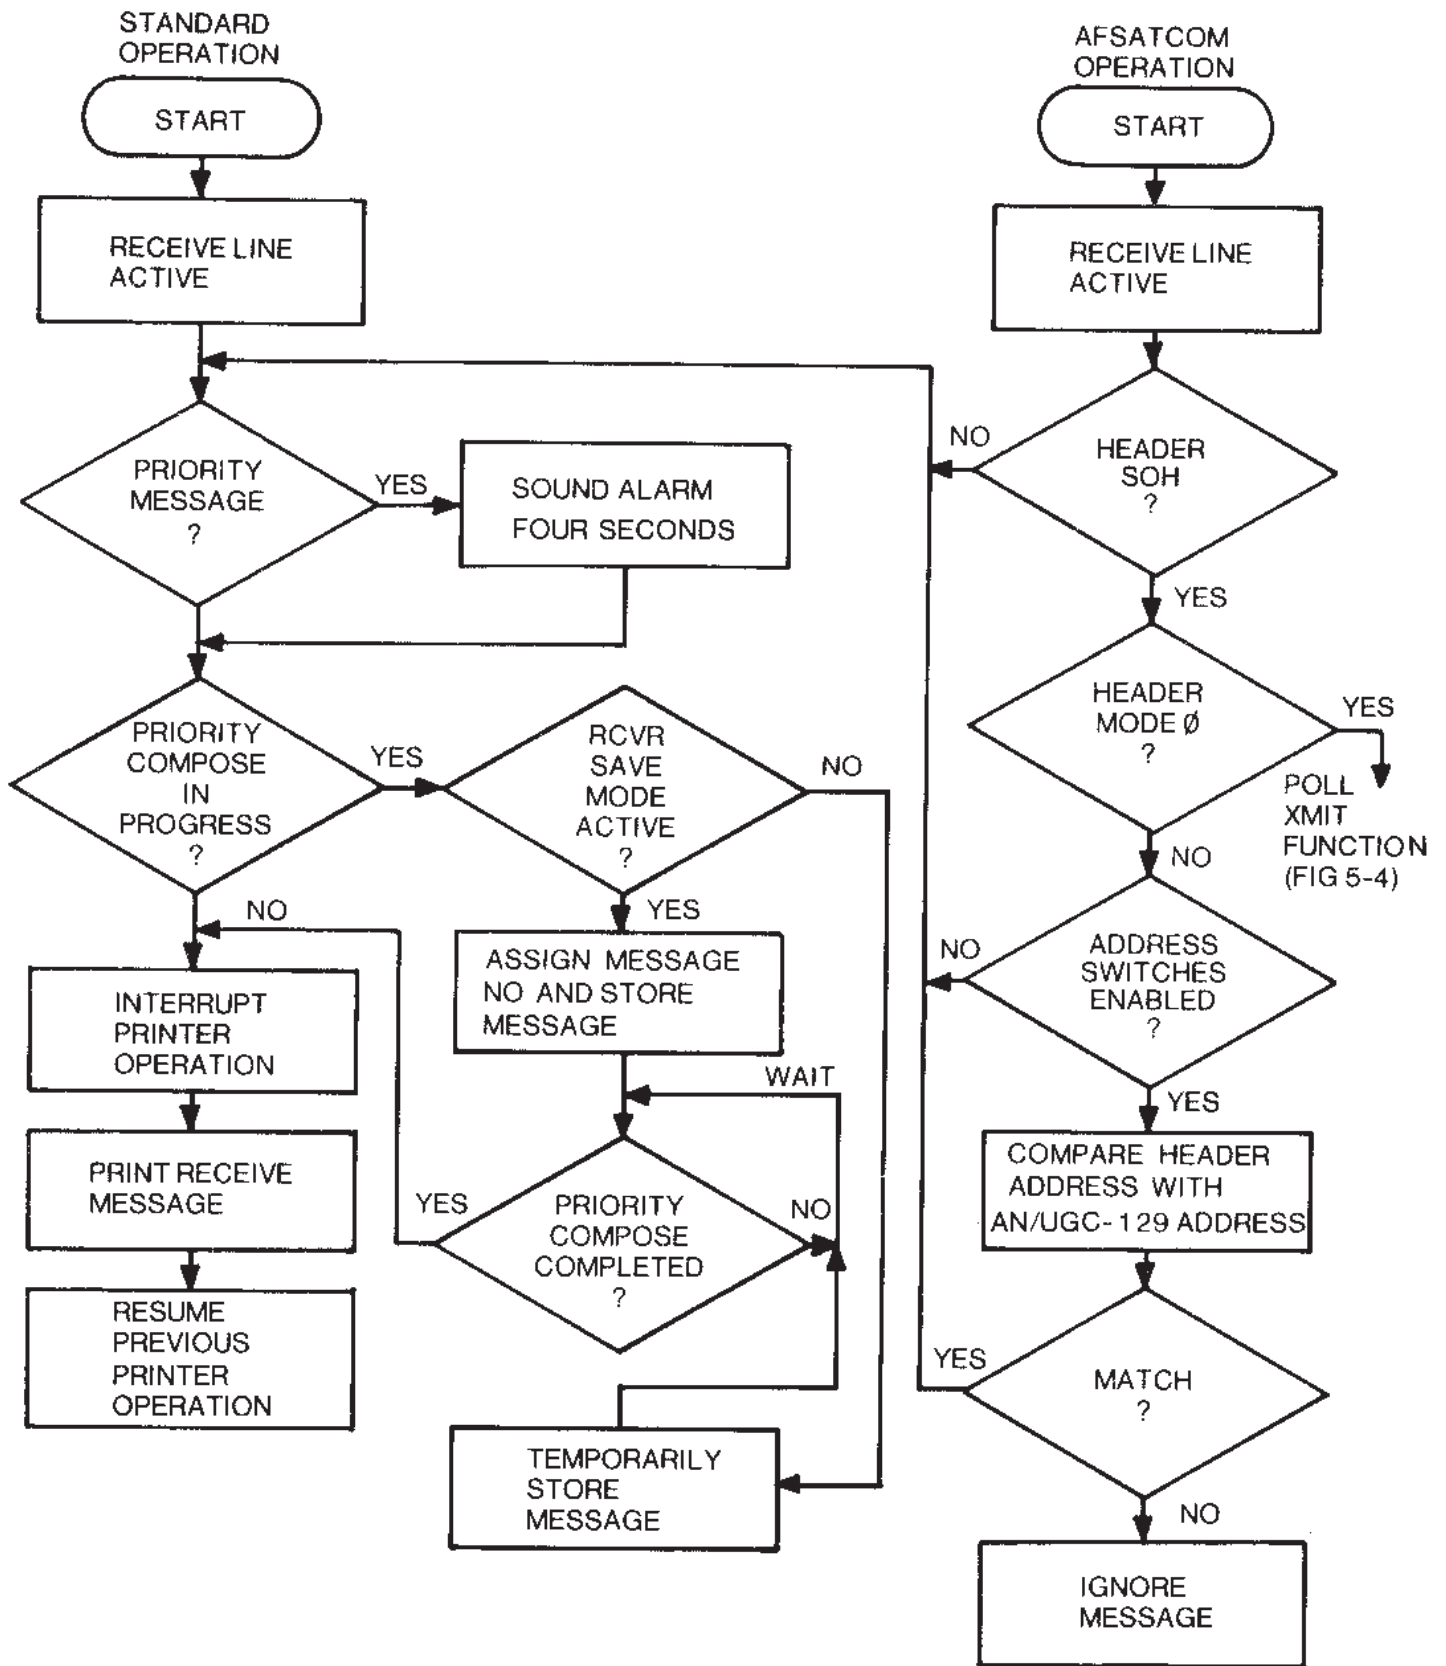

Figure 5-2. AN/UGC-129 Receive Operation
b. Standard Receive Operation. A flow chart of AN/UGC-129 receive operation sequence is shown in figure 5-2. All receive functions are performed automatically by the microprocessor. When the receive line becomes active, the microprocessor starts processing the message and tests the message header for CR, LF, upper case Z or Y, and SPACE. If these four characters are present, the microprocessor recognizes the message as a priority message and
c. AFSATCOM Receive Operation. The AFSATCOM receive operation is the same as the standard receive operation, except for the message header address recognition capability. A flow chart of the AFSATCOM address recognition function is shown in figure 5-2. When in the AFSATCOM mode, the microprocessor tests any incoming message for the SOH character of the SOH, MODE (0-3), ADDRESS (A1, A2, A3) messages header. If the SOH character is present, the microprocessor tests the header mode character for zero. Mode 0 is the poll transmit inquiry mode used to start